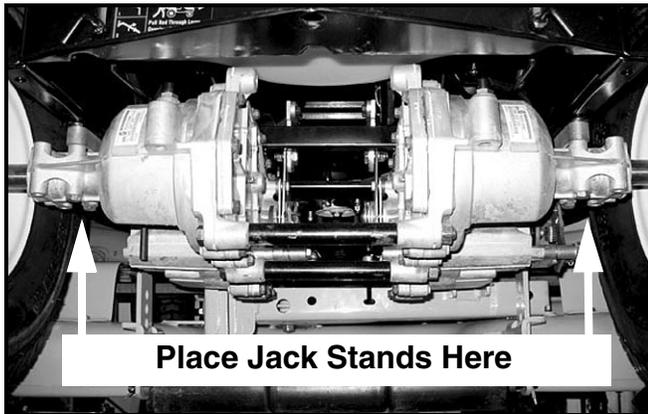

FIGURE 3
6. Jack the tractor up so that both rear wheels are off the ground and place a pair of jack stands under the rear transmissions as shown in Figure 3.